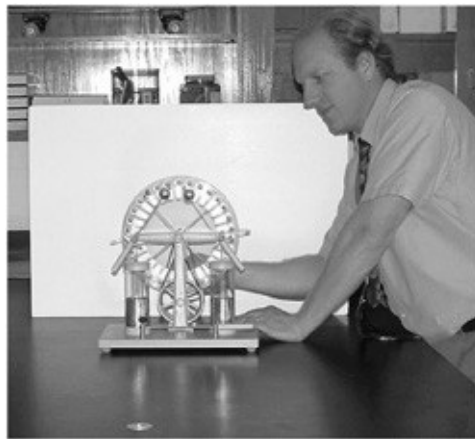

Figure 98-1 *Chris Aleo demonstrates the operation of a Wimshurst machine.*
6. Turn the handle for five seconds or so, as shown in Figure 98-1.